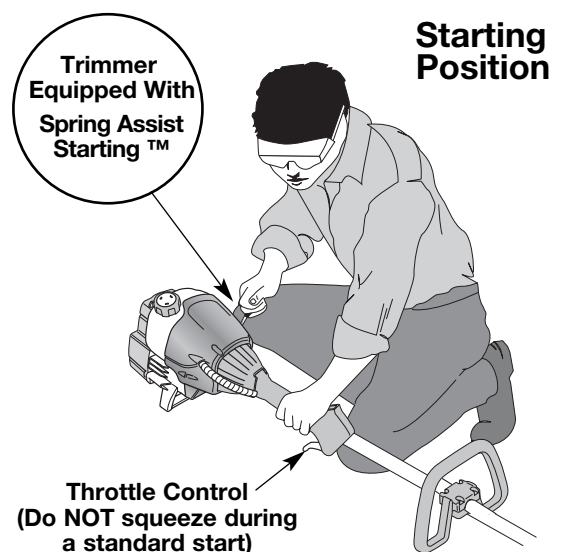

Fig. 8
**WARNING:** Avoid accidental starting. Make sure you are in the starting position when pulling the starter rope (Fig. 8). To avoid serious injury, the operator and unit must be in a stable position while starting. Make sure that any Add-On item is installed correctly and secure before starting the unit.
4. Crouch in the starting position and **do not squeeze the throttle control** (Fig. 8). Pull the starter rope out with a **controlled and steady motion** until the engine attempts to start. Repeat until the engine starts.